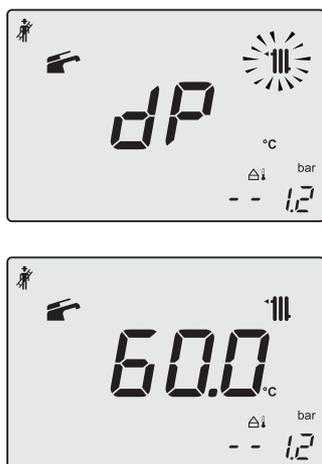

Figure 11.10
- 25 Press further key G to vary again the output in chimney sweep mode: when the display shows the letters **dP** that alternate with the heating water temperature value (e.g.60), the "chimney sweep function" is at maximum output in domestic hot water mode" (Figure 11.10);